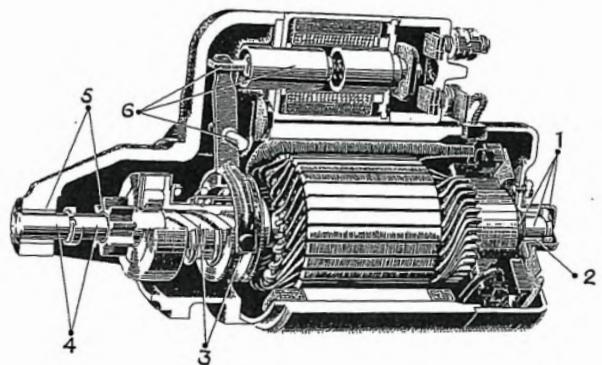

Fig. 3-71. Lubricating scheme for starter motor
1. Lubricate the parts of the starter motor according to Fig. 3-71.